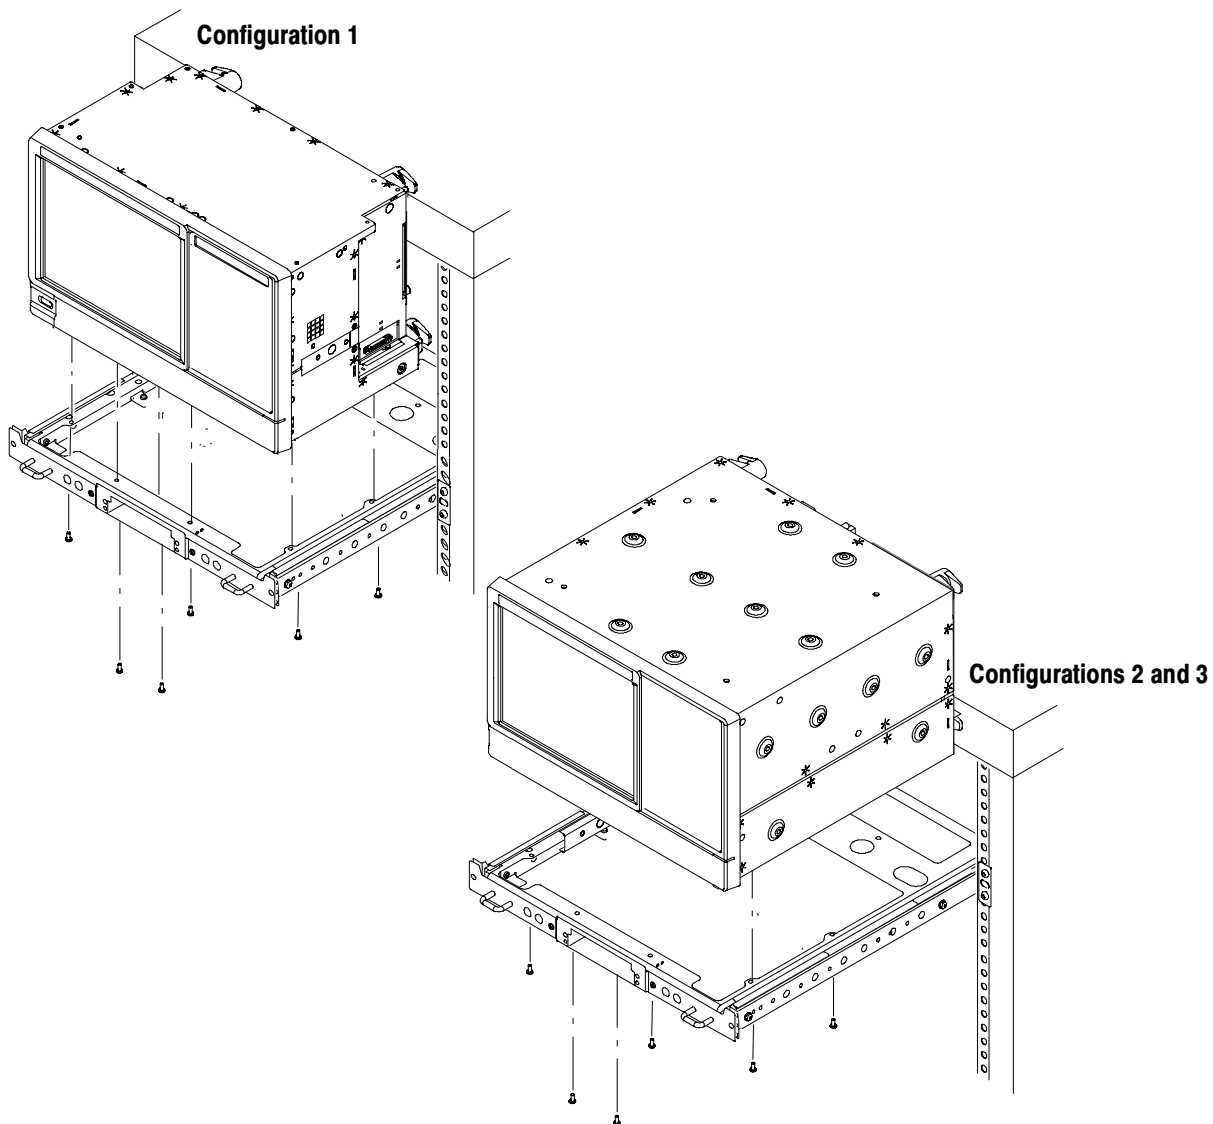

Figure 8: Installing the instrument on the rack plate
4. Install your instrument on the rack plate as shown in Figure 8.